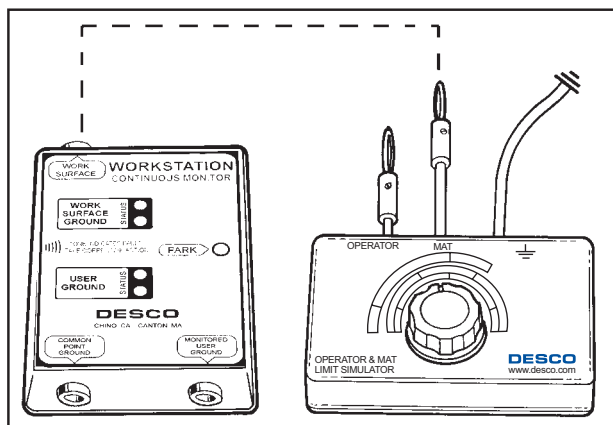

Figure 3. Testing 19225 work surface PASS AND FAIL.
Step 2: Insert the calibration unit's banana plug marked "Mat" into the jack marked "Work Surface" on the 19225. See figure 3.